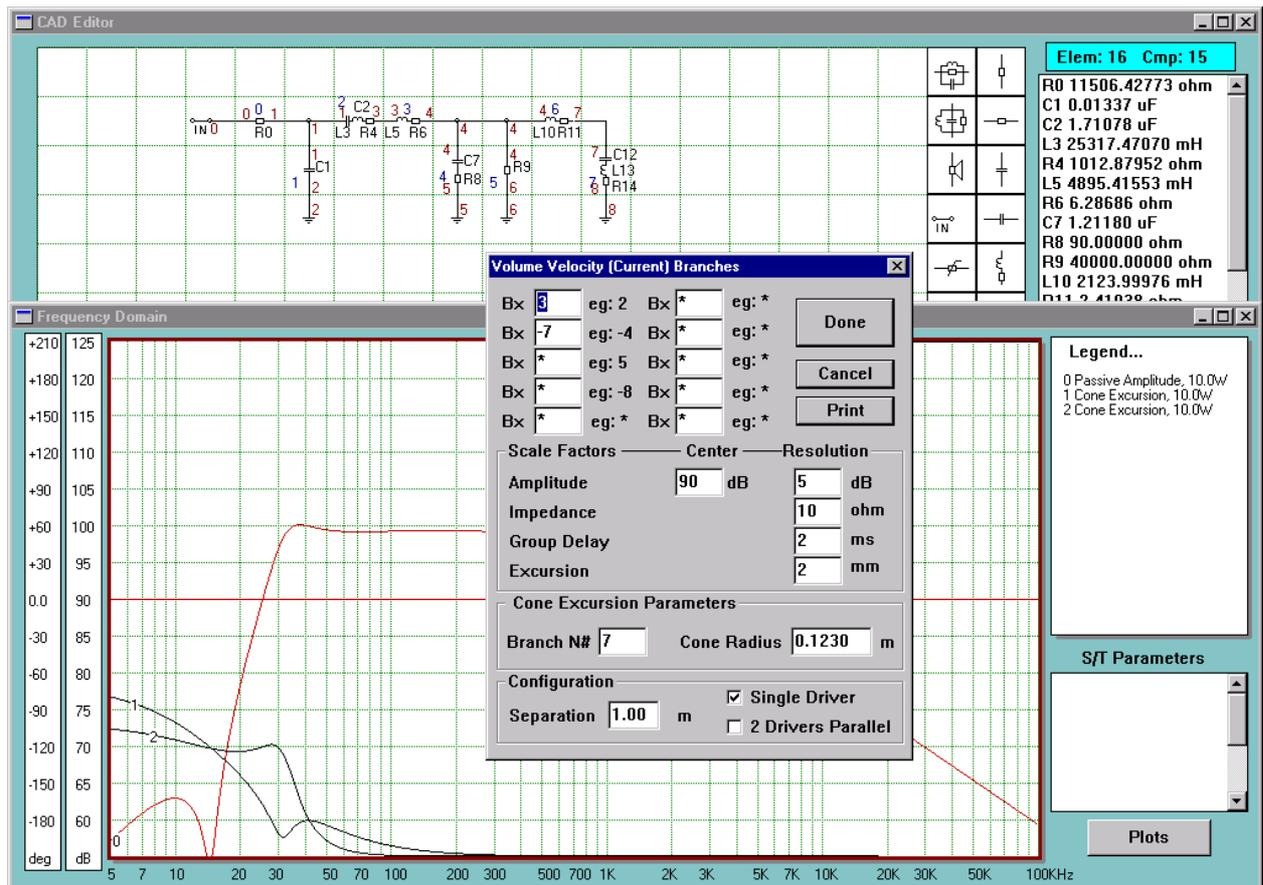

Fig 3.2 Control box for amplitude/cone excursion plots
1. Branch containing the cone element is selected. In Fig 3.2, Branch N# 3 is selected, because it contains all three elements representing driver's mass, loss and suspension. This way, volume velocity of the cone,  $U_c$ , (current in our schematic) in this branch is calculated.
The above process is quite universal, allowing you to plot passive radiator cone excursion as well. All you need to do, is to enter the branch number containing passive radiator element and then enter PR cone radius. Fig 3.2 shows Branch N# 7 was selected for the PR and the radius was the same as for the driver – see plot 2.